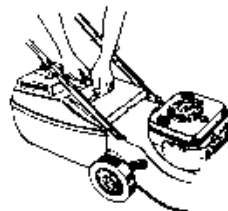

Figure 3 - Installing & Removing Grass Catcher
2.1 Installing the Grass Catcher (Refer Fig. 3)
2.2 Removing the Grass Catcher (Refer Fig 3.)